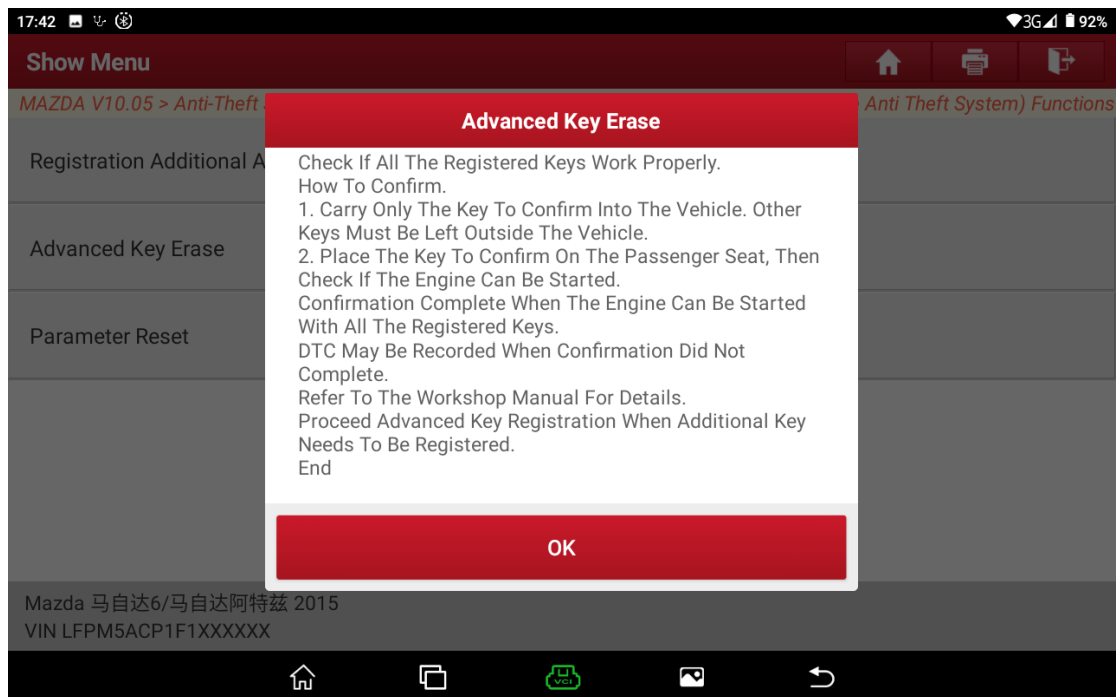

Figure 26
24. Check the registered keys. Do not bring other keys into the car. See Figure 26.